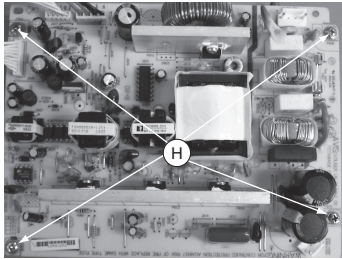

Figure 8
- 4) Loosen 4 screws "H" as shown in figure 8.